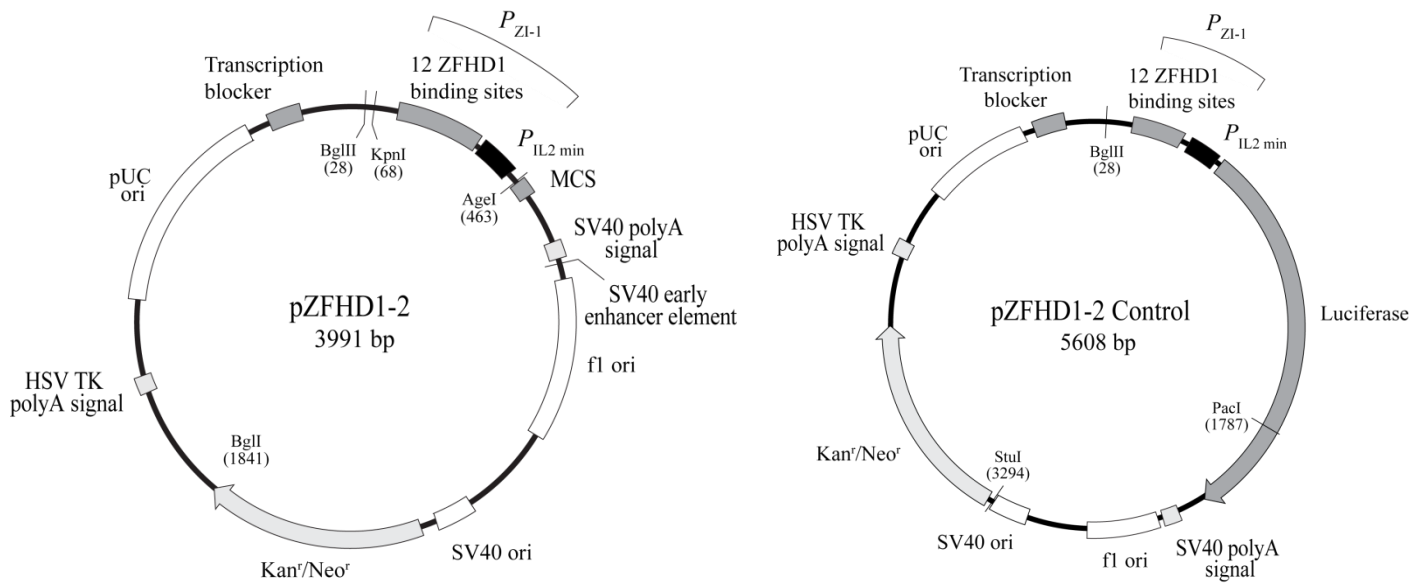

Figure 3. pZFHD1-2 and pZFHD1-2 Control vector maps. Clone your gene of interest into the MCS of pZFHD1-2.
- pZFHD1-2 (Figure 3, left) is an inducible mammalian expression vector designed to express your gene of interest under the control of the P_{Z1-1} promoter, which consists of 12 tandem ZFHD1 binding sites fused to a minimal IL-2 promoter. In the presence of A/C Heterodimerizer, the reconstituted transcription factor binds P_{Z1-1} in a double-stable cell line that also contains the pHet-Act1-2 vector. This vector contains a neomycin resistance cassette.
- pZFHD1-2 Control (Figure 3, right) is the same vector as pZFHD1-2, with the gene for firefly luciferase cloned into the MCS. When pZFHD1-2 Control is cotransfected with pHet-Act1-2, you should detect only minimal expression in the absence of the A/C heterodimerizer. Adding the A/C Heterodimerizer results in fast, tunable, luciferase gene expression.